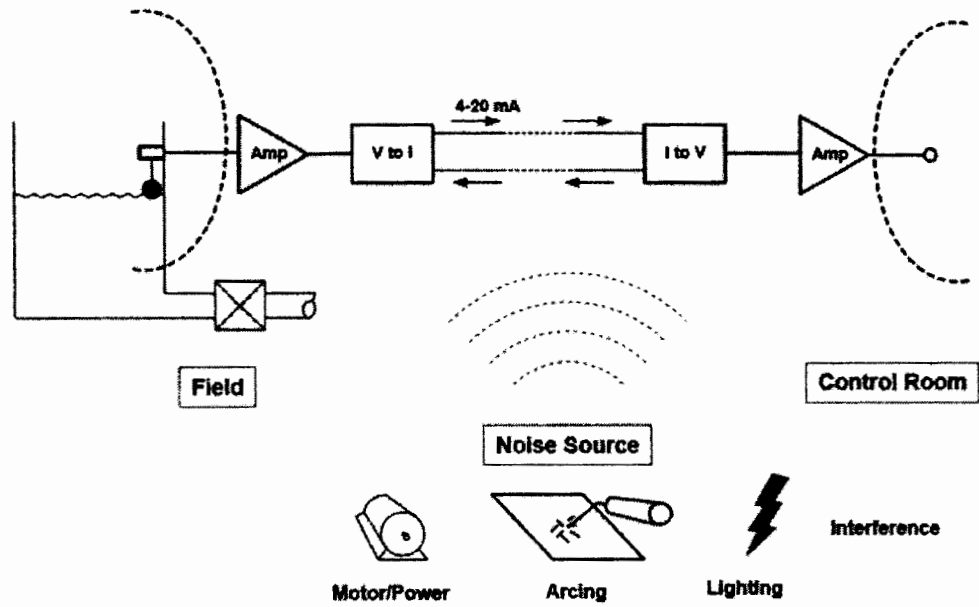

Figure 1
3. From figure 1, explain the following terms by writing to the space provided for each term. (10 marks)